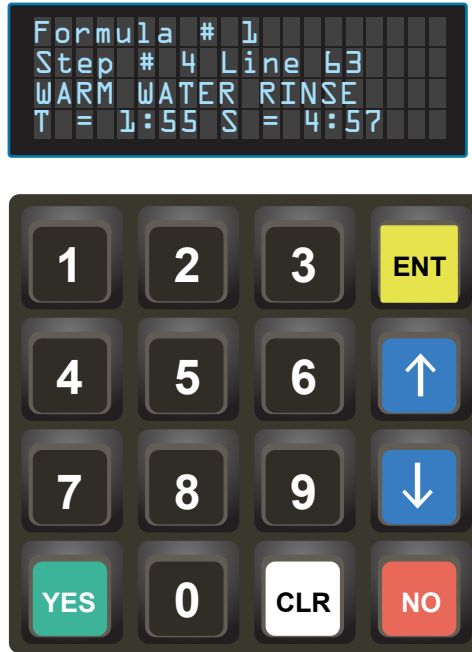

Figure 43. MicroPulse Display and keyboard before beginning the cancel formula procedure.
1. Pause the formula by pressing the **NO** button on the MicroPulse control. Before pausing the formula, your display will look similar to the display in Figure 43. When paused, your display will show “Paused” on the third line (see Figure 43).